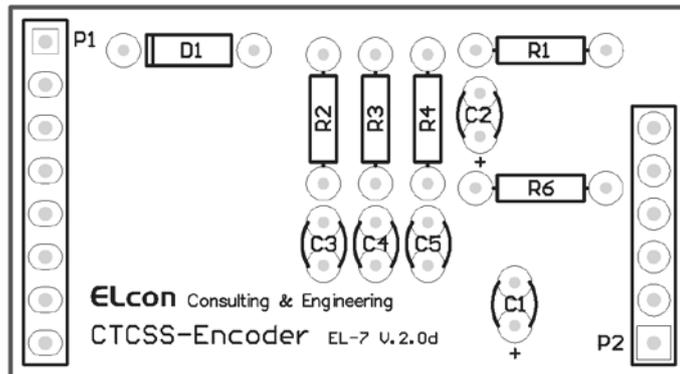
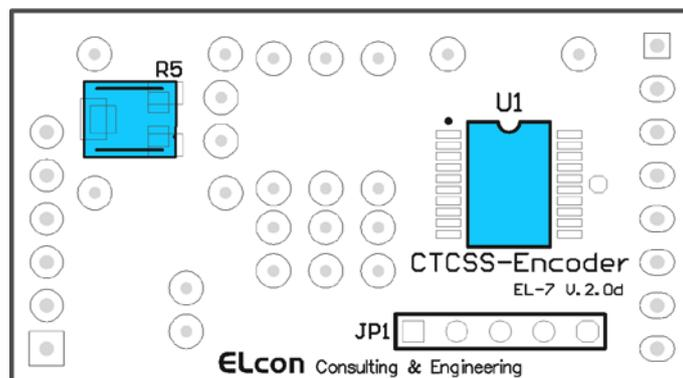

Figure 2 / bottom
Figure 3/ top
For the placement drawings of the top and bottom of the pcb refer to Chapter 3.3 (Figure 2 / bottom, Figure 3/ top). The SMD components are already assembled.
- C1, C2, electrolytic capacitors → mind the polarity! white stripe = negative, see Chapter 3.3 (Figure 2 / bottom).